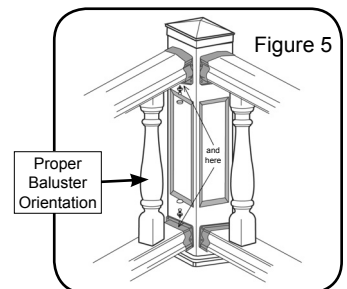

Figure 5
With rail assembled, mounting brackets placed on rail ends, set rail in between post on top of 2" blocks. Next, center mounting brackets on newel post. Drill a 5/32" hole through mounting bracket screw holes (four per bracket) into post and install four (4) mounting bracket screws on all (4) brackets. With all brackets screwed in place, you will need to install a screw, washer and white cap through each bracket into the rails. Drill a hole in center of the mounting bracket (close to the post if possible) one screw per bracket, bottom of top bracket and top of bottom bracket (see Figure 5).